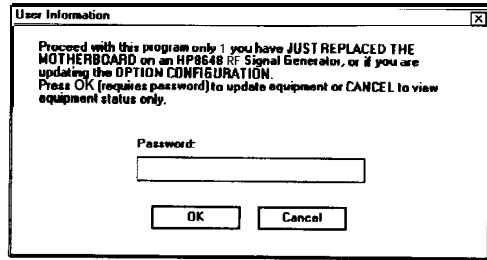

Figure 7-73.
2. When the User Information dialog box requesting a password is displayed (see Figure 7-73), leave the password box empty and select the **Cancel** button.